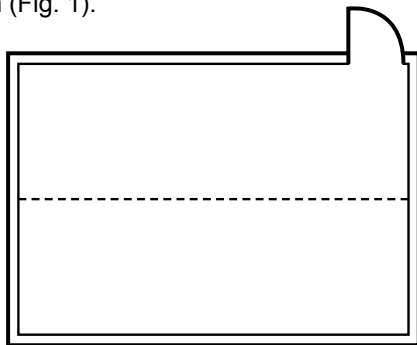

Fig. 1 - Center line
**Plank Installations** - Snap a chalk line down the center of the floor parallel with the long dimension of the room (Fig. 1).